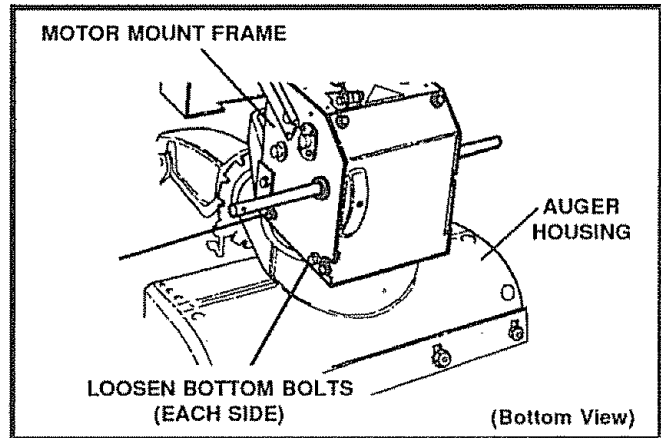
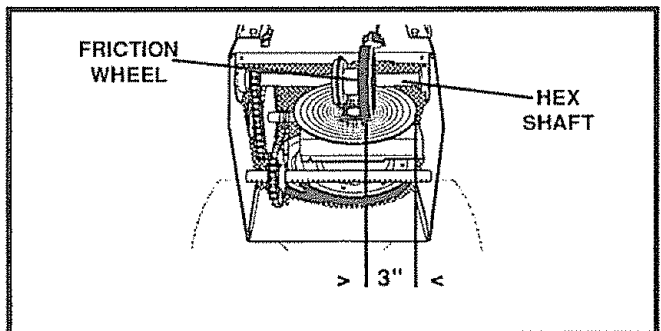

FIG. 29
FIG. 29A
- Remove top two bolts that secure auger housing to motor mount frame. Loosen bottom two bolts. Auger housing and motor mount frame will separate, hinged by bottom two bolts. (See Fig. 29).
- Remove the bottom panel (See Fig. 29).
- Position the shifter lever in first (1) gear.
- Note the position of the friction wheel on the disc drive plate. The right outer side of the disc drive plate should be 3" from the center of the friction wheel (See Fig. 29A).
- Move friction wheel to proper position as indicated in previous step (Fig. 29A).